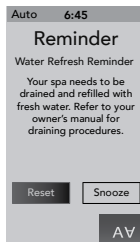

Figure 15.0f
24. Water Refresh Reminder: This message will appear when the “Water Refresh” timer has expired (Figure 15.0f). The water needs to be drained and refilled with fresh water.